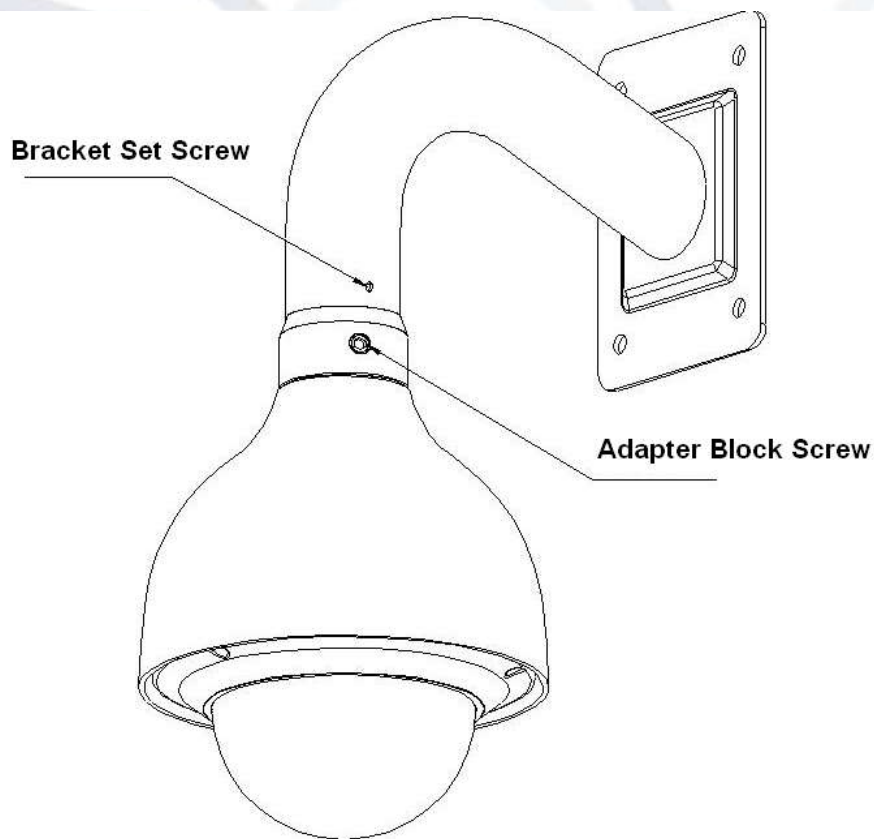

Figure 4-2
2. In Figure 4-2, connect the adapter block to the internal thread of the wall mount bracket, until it reaches the end, and then fix the set screw. Pull the intelligent IP PTZ's composite cable through the adapter block and pull it out the other end of the wall mount bracket. Line up the hook at the top of the external enclosure to the hole in the inside of the adapter block and then push it to the end. Next secure the three screws of the adapter block firmly. **Please note this step is very important. Please make sure the screws are firmly set into place, otherwise there will be a risk that the IP PTZ may fall from the wall bracket and cause injury to person(s).**